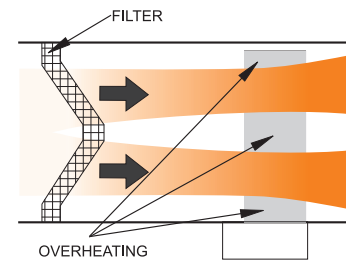

fig.2.22
- ⚠ If the electric heater is located too close to a filter or diffuser, 3 overheating areas may occur (fig. 2.22).